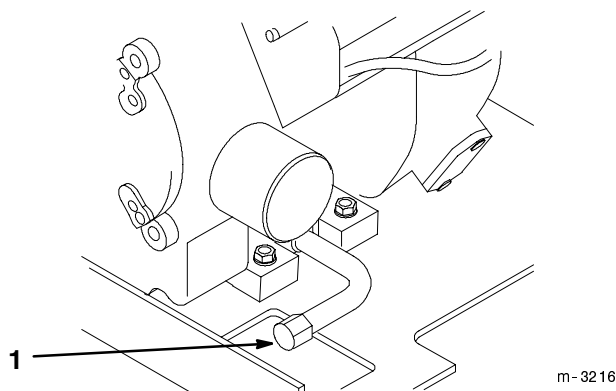

Figure 58
3. Place a pan below the oil drain. Remove the oil drain cap (Fig. 58).